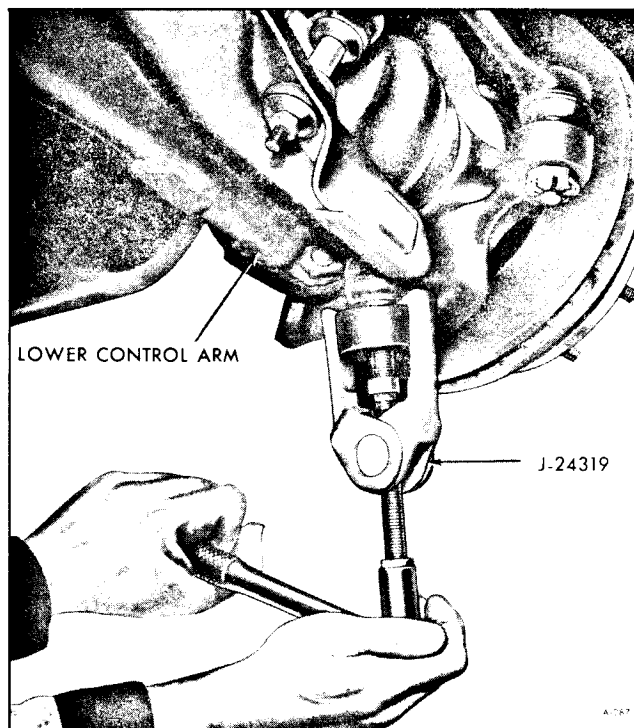

Figure 6—Removing Lower Ball Joint
9. Using Tool J-24319 (figure 6) remove lower ball joint from knuckle. Care must be exercised so that ball joint doesn't damage drive axle seal.